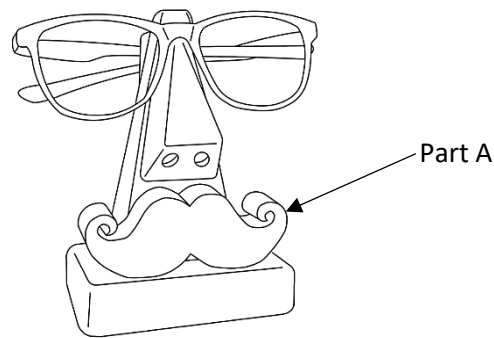

Figure 4
16. Figure 4 shows a polymer stand which is used to hold eyeglasses on display. Such stand was made using the 3D printing fabrication process.
c. The profile of Part A on Figure 4 was created by tracing the outline of a bitmap image and transform it into a vector image. Describe why a bitmap image does **not** work well to convert into 3D.
d. Briefly explain how to digitally create the form marked as Part A on Figure 4 on a 3D drawing software.